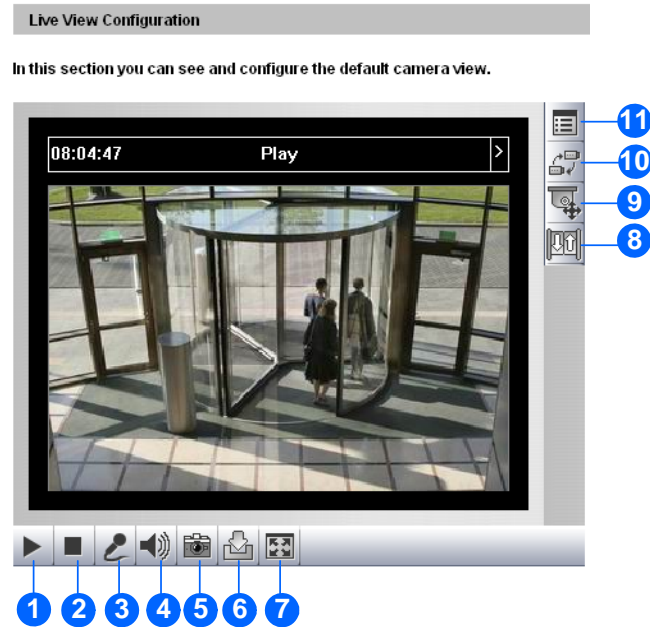

Figure 3-3
1. Click the **Snapshot** button (No. 5, Figure 3-3). The Save As dialog box appears.
1. Click the **File Save** button (No. 6, Figure 3-3). The Save As dialog box appears.
4. To stop recording, click the **Stop** button (No. 2, Figure 3-3).
- Click the **Full Screen** button (No. 7, Figure 3-3). Right-click the full screen to have the options of **PIP** and **PAP**.
To configure this function, click the **Show System Menu** button (No. 11, Figure 3-3), and select **Alarm Notify**. This dialog box appears.
You can enable the microphone and speaker for two-way audio communication and adjust the audio volume. To change audio configuration, click the **Show System Menu** button (No. 11, Figure 3-3), and select **Video and Audio Configuration**.
You can upgrade firmware over the Internet. Click the **Show System Menu** button (No. 11, Figure 3-3), and select **Remote Config**. The Remote Config dialog box will appear.
To display the camera name on the image, click the **Show System Menu** button (No. 11, Figure 3-3), and select **Show Camera Name**.
To enhance the image quality of live video, click the **Show System Menu** button (No. 11, Figure 3-3), and select **Image Enhance**. This dialog box appears.
To open the PTZ control panel, click the **PTZ Control** button (No. 9, Figure 3-3) and select **PTZ Control Panel**. Different PTZ devices have different functions, so the features included in the **Option** button may vary.